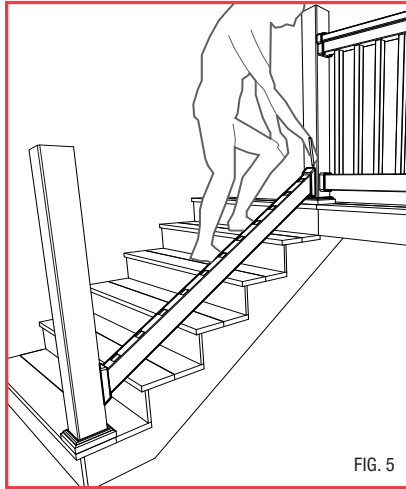

FIG. 5
6. Slide the bracket covers over both ends of the bottom rail and position the bottom rail between posts at the desired height and angle. Mark the location on the posts. (Fig. 5)